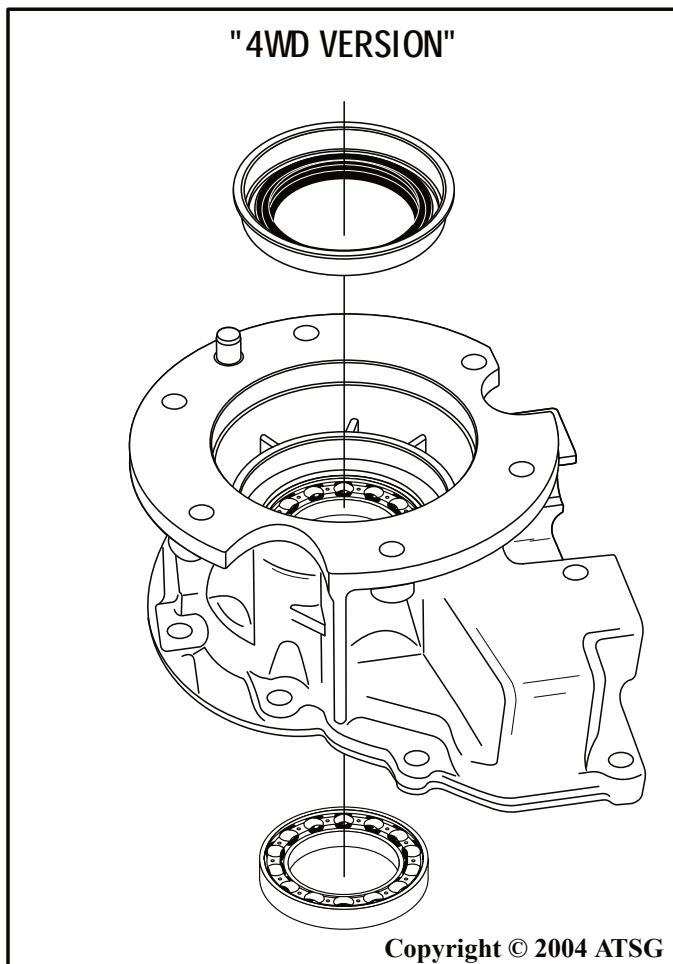

Figure 67
26. Install new extension housing seal using the proper seal driver (See Figure 67).
27. Replace the ball bearing in the 4WD version as necessary using the proper drivers. Refer to Figure 67.